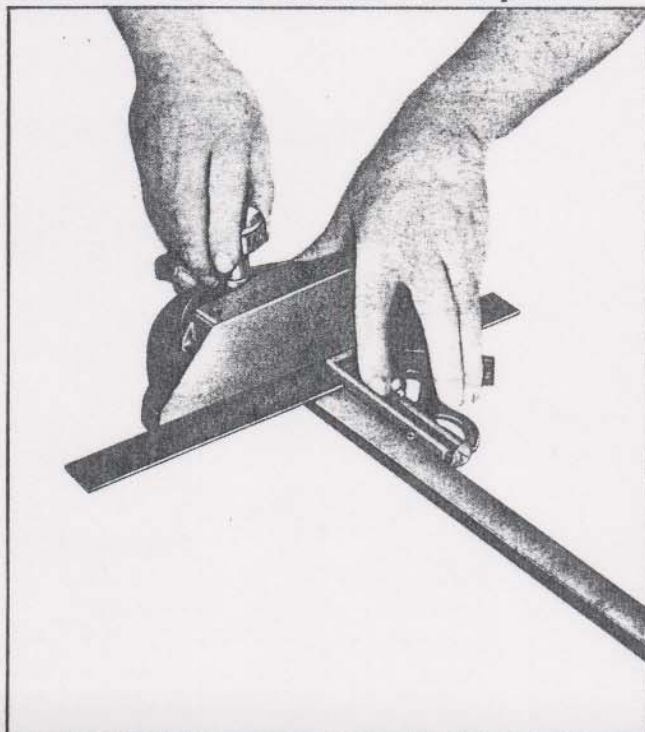

FIGURE 10
2. Using a combination square set the miter protractor face 90° to bar and tighten knob securely. See Fig. 10.